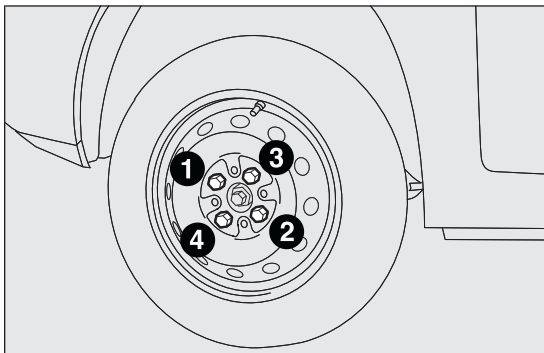

fig. 125
- ☐ use the wrench provided to fasten the bolts completely in a criss-cross fashion as shown in fig. 125.